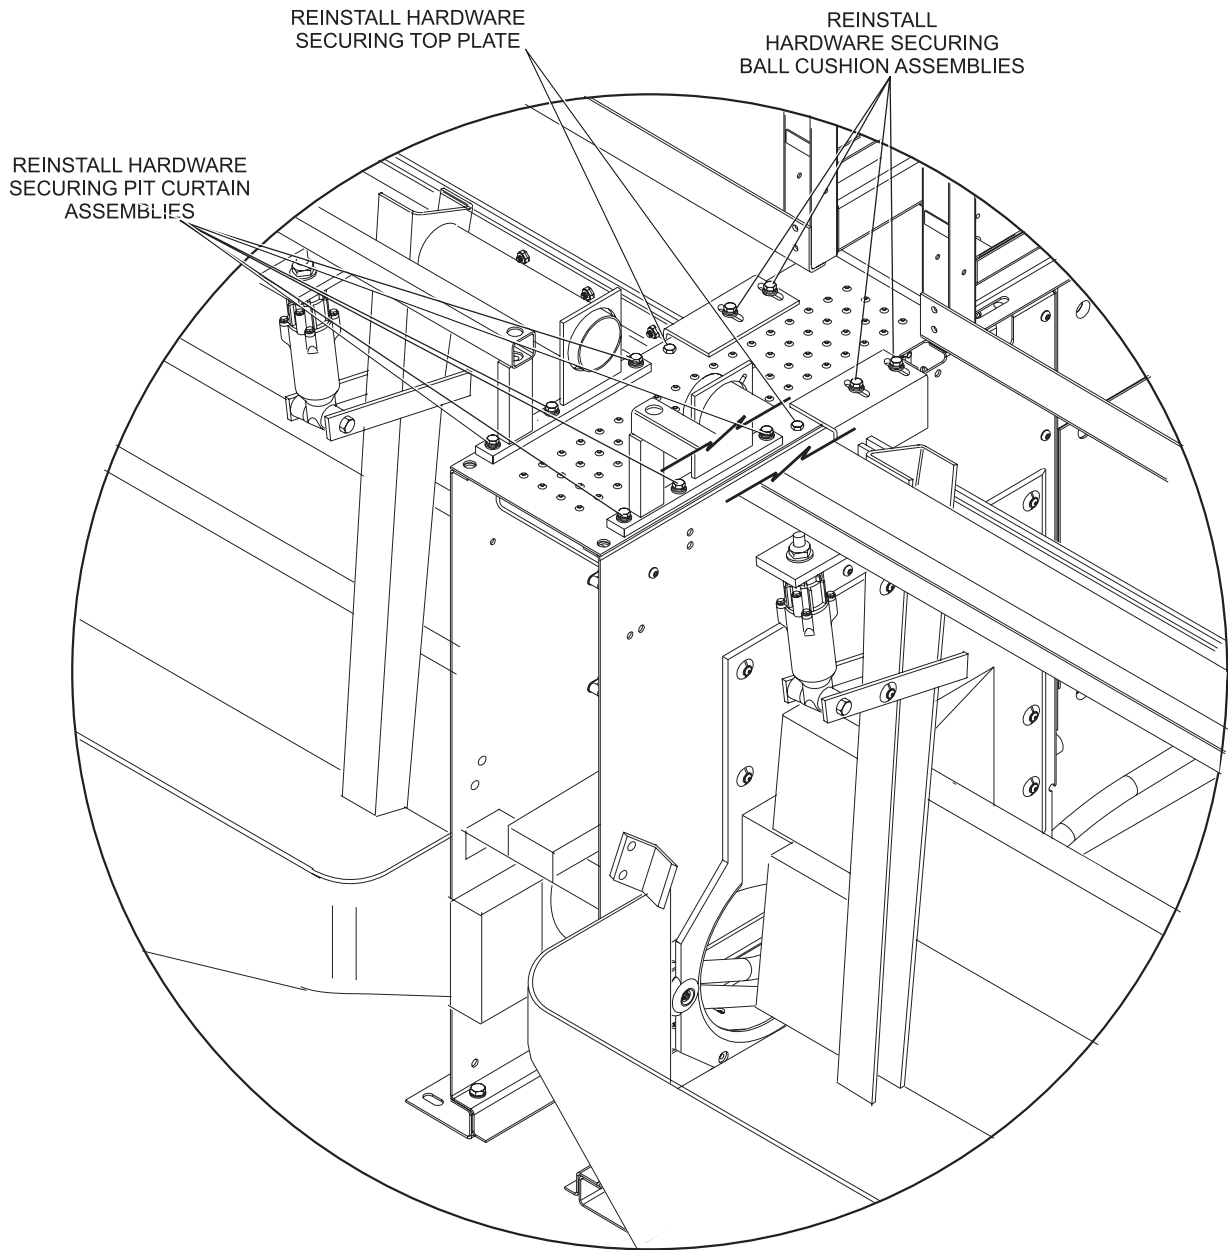

Figure 5
2. Secure new top plate to ball box with existing hardware removed in *steps 1* and *2*. Refer to *Figure 5*.